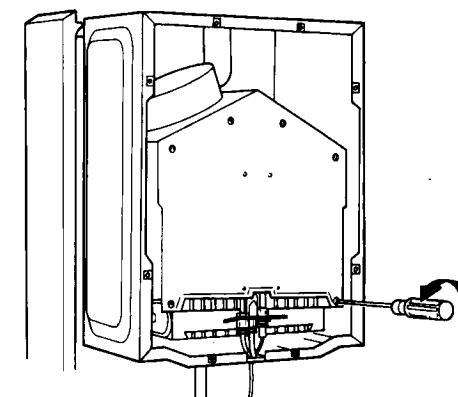

Fig. 29
8.7.3 Remove front of combustion chamber by releasing six screws fig 29)